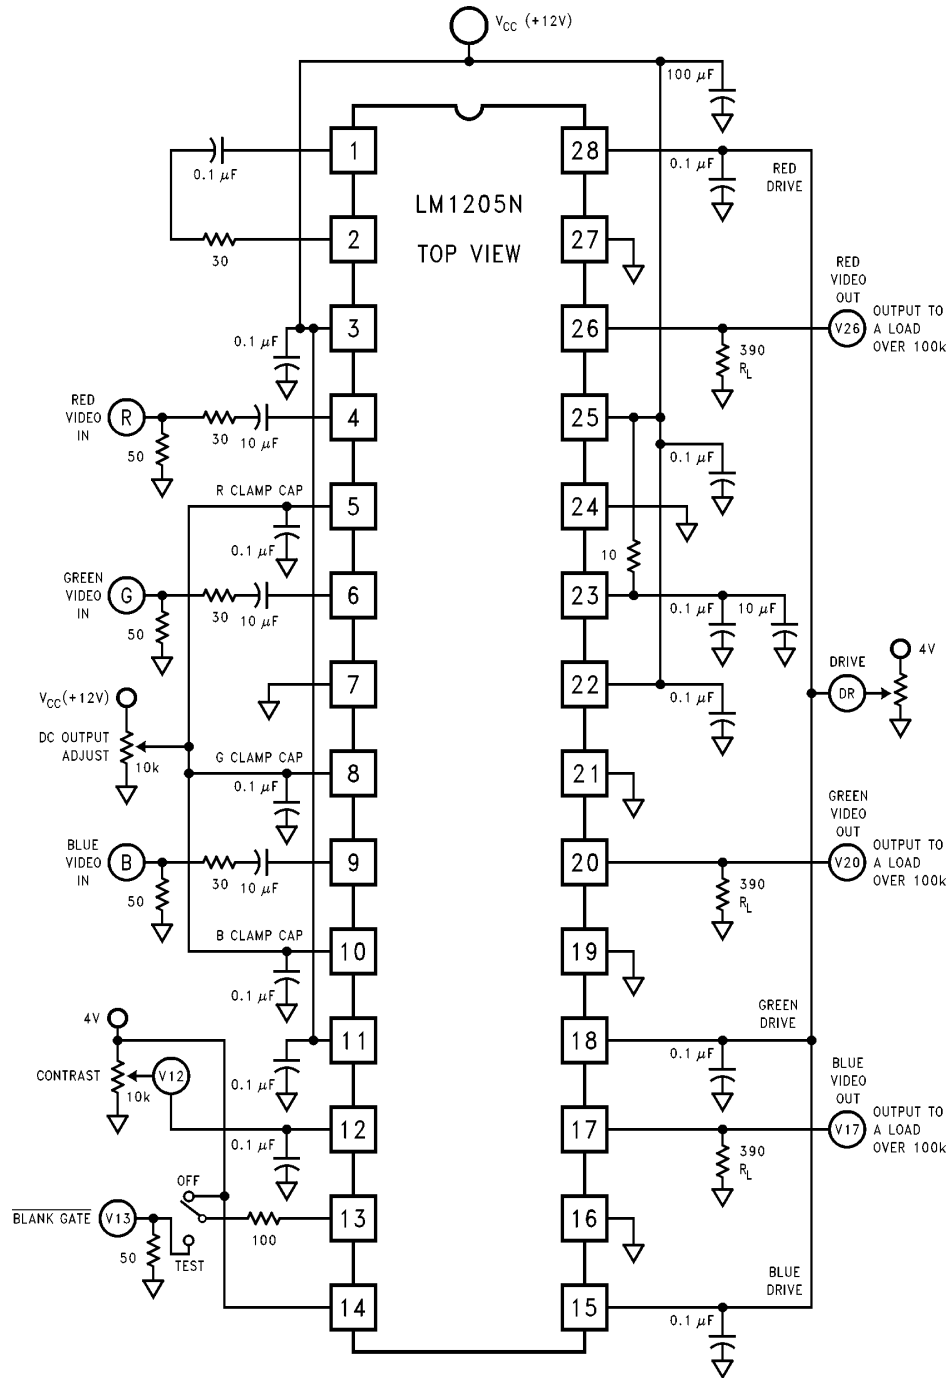

FIGURE 3. LM1205N AC Test Circuit
**AC Electrical Characteristics** See AC Test Circuit (*Figure 3*),  $T_A = 25^\circ\text{C}$ ;  $V_{CC1} = V_{CC2} = 12\text{V}$ . Manually adjust Video Output pins 17, 20, and 26 to 4V DC for the AC test unless otherwise stated. (Note 15).